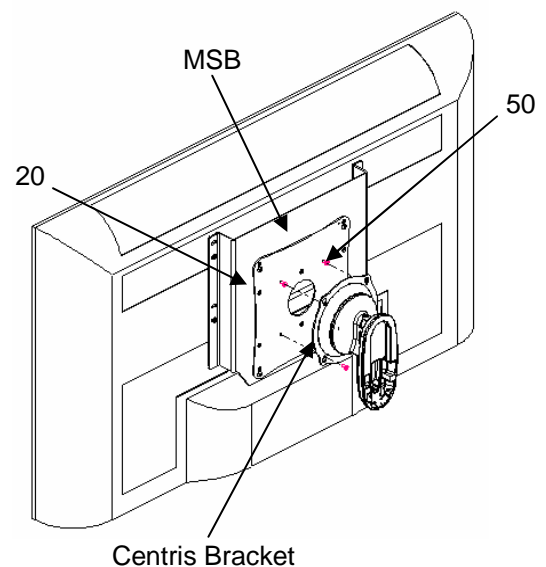

Figure 13. Mount MSB to Centris Bracket
2. Align mounting holes on Centris bracket with screws installed in MSB or VESA Plate in Step 1. See Figure 13.
3. Install two remaining M4 x 8mm Phillips pan head screws (50) into bottom two mounting holes of MSB or VESA Plate (20). See Figure 13.